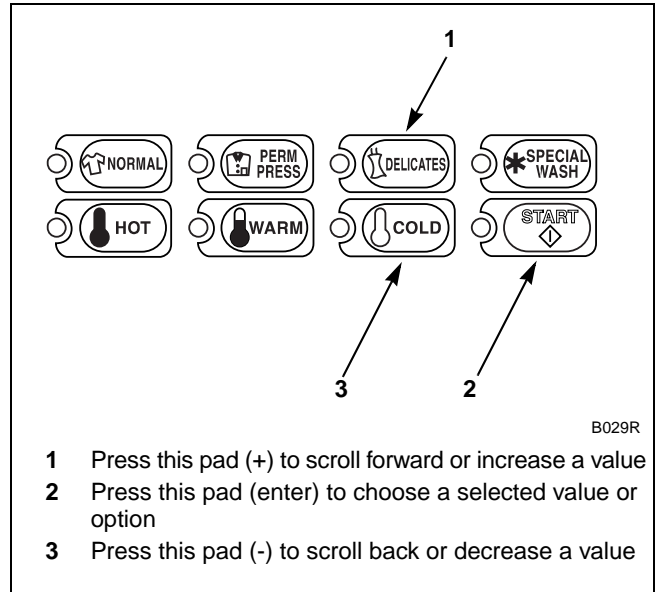

Figure 170
5. Press the DELICATES (+) or the COLD (-) keypad to increase or decrease the current number of minutes displayed in the VFD to the desired number of minutes. Refer to *Figure 170*.
**NOTE: The Special Wash PreWash #1 Fill/Tumble Time can be set from zero (0) to 15 minutes.**